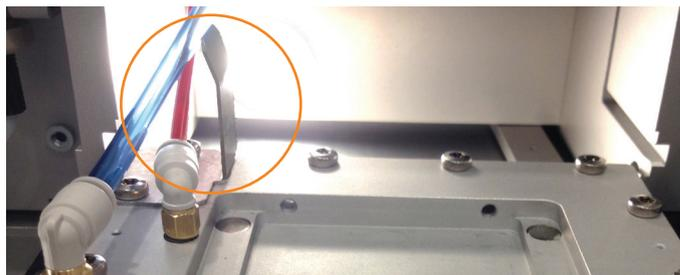

Figure 101. Ensure that the gas tubes are on the left side of the highlighted bracket.
- Reconnect the gas tubes. Ensure that the tubes are properly fastened by pulling on them, and that the tubes are on the left side of the bracket as shown in Figure 101.